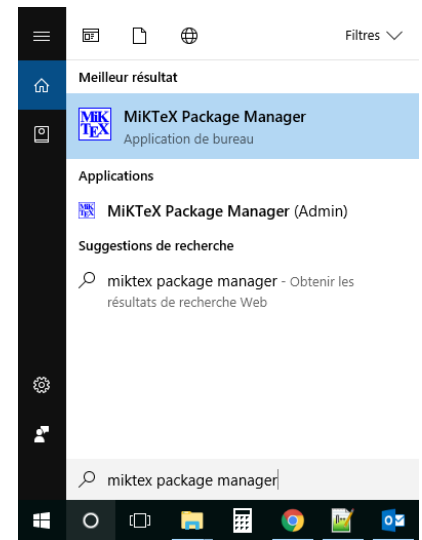
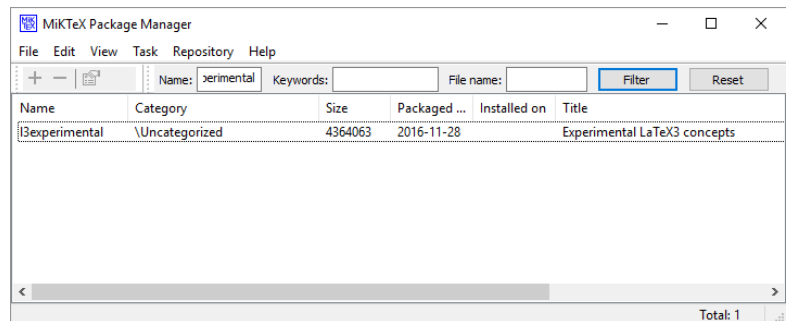

Figure 8: MiKTeX packages installation – Step 1.
Figure 9: MiKTeX packages installation – Step 2.
- Then, relying on the Windows™ search bar, MiKTeX Package Manager could be found and launched (see Figure 8). The Package Manager (see Figure 9) enables advanced packages retrieving from the internet. EarthQuick relies on the packages below: